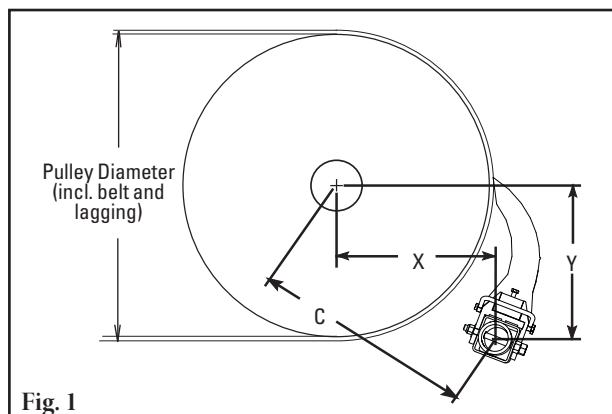

Fig. 1
1. **Find the X, Y & C specifications.** Measure the pulley diameter (including the belt and the lagging) (Fig. 1).